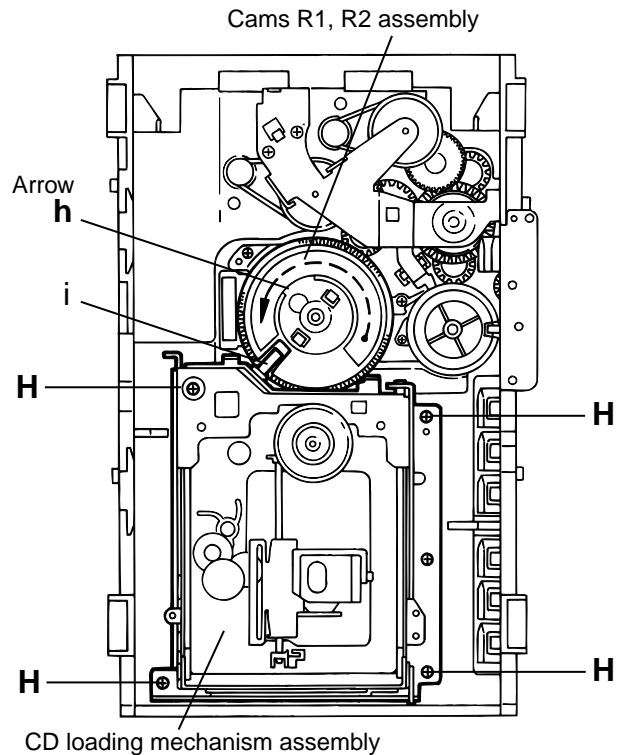

Fig.10
## ■ Removing the CD loading mechanism assembly(See Fig.10)
1. While turning the cams R1 and R2 assembly in the arrow direction "h", align the shaft "i" of the CD loading mechanism assembly to the position shown in Fig.10.